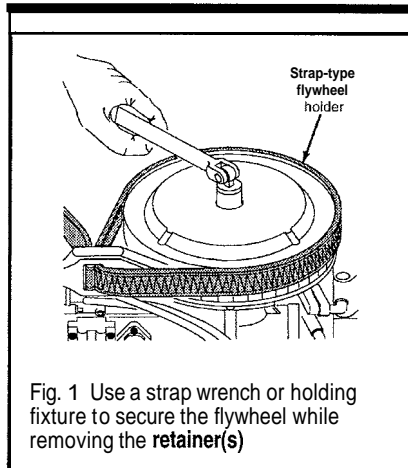

Fig. 1 Use a strap wrench or holding fixture to secure the flywheel while removing the **retainer(s)**
- ◆ See Figures 1, 2, 3, 4 and 5